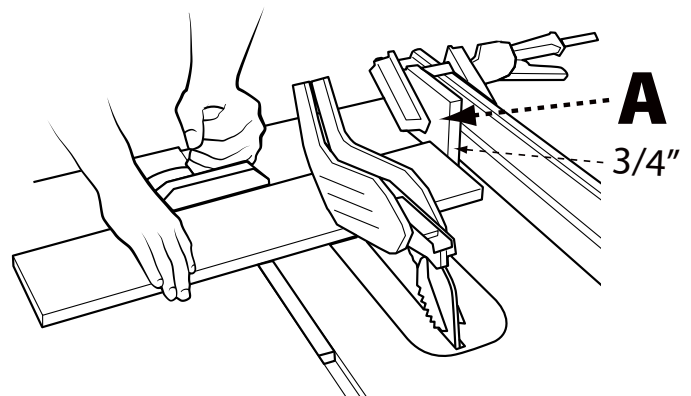

FIGURE 39
When crosscutting a number of pieces to the same length, you can clamp a block of wood (A) (See Figure 39) to the fence and use it as a cut-off gauge. The block (A) must be at least $\frac{3}{4}$ -inch (19 mm) thick to prevent the cut off piece from binding between the blade and the fence. Once the cut-off length is determined, lock the fence and use the miter gauge to feed the workpiece into the blade.